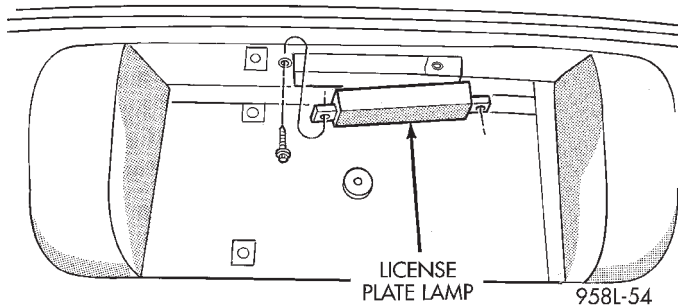

Fig. 8 License Plate Lamp
- (1) Remove screws attaching license plate lamp to rear bumper fascia (Fig. 8).
- (2) Remove license plate lamp from fascia.
- (3) Remove socket from lamp.
- (4) Remove lamp from vehicle.